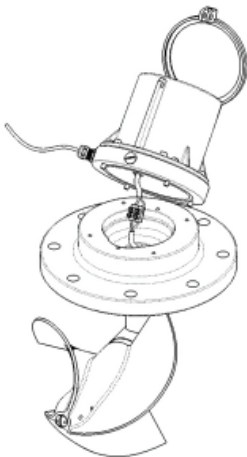

Figure 17: Sensor Cable Connecting To Pulse Input Cable
Step 3. Connect the sensor cable to the in-line terminal block. The red wire of the pulse input cable is the positive (+) and the black wire is the negative (-) (Figure17). **Caution:** Be careful not to drop the register assembly.